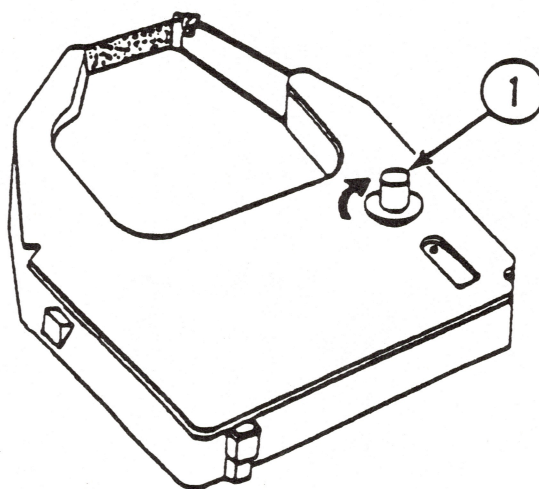

FIGURE 5
6. On the cartridge, turn the knob in the direction shown until you hear it "click" and the ribbon is taut (see Figure 5, #1).